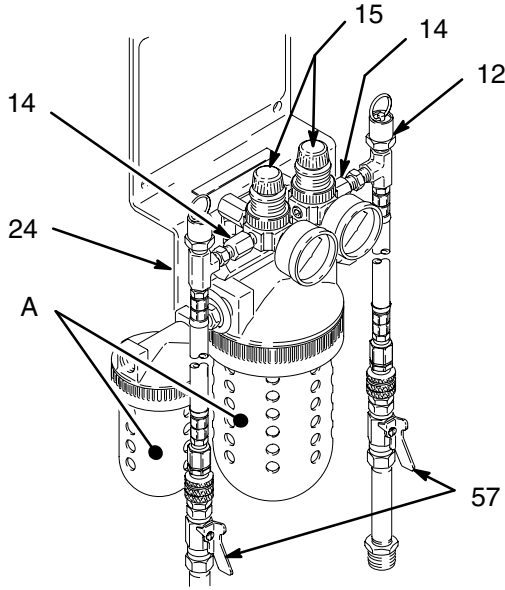

Fig. 16
1. Set both air regulators (15) to the lowest pressure needed to provide adequate dry air to the supply drums. A setting of 2 psi (14 kPa, 0.14 bar) normally provides enough dry air to the drums. See Fig. 16.
2. Open the drum shutoff valves (57). See Fig. 16.
3. To lower the pressure on the gauge, turn the regulator knob counterclockwise and pull up on the pressure relief valve (12) ring until the pressure on the gauge is just below the desired setpoint. Release the ring and then turn the knob to the desired pressure. See Fig. 16.
4. Check the pressure relief valves daily. To check, close the drum shutoff valves (57) and uncouple the air hoses (58) from the pin fitting. Increase the air pressure slowly. If pressure is not relieved by 5.5 psi (38 kPa, 0.38 bar), replace the valve. See Fig. 16.
**NOTE:** A minimum pressure of 1 psi (7 kPa, 0.07 bar) is needed to open the check valves (14).